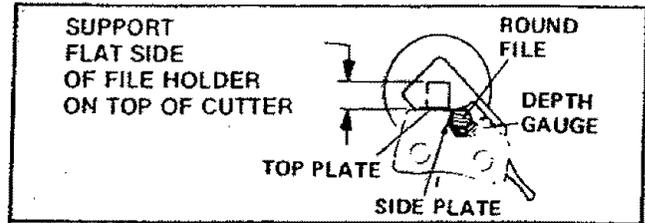

Figure 34
- Position flat side of file holder (with 5/32" round file) on cutter top plate and depth gauge. Figure 34.